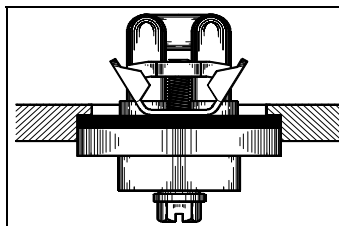

Figure 2 – Heater Firmly Against Block
6. Insert the heater into the core hole. Point the element to the correct position. Push the heater firmly against the engine block wall once it is properly oriented. (Fig.2)